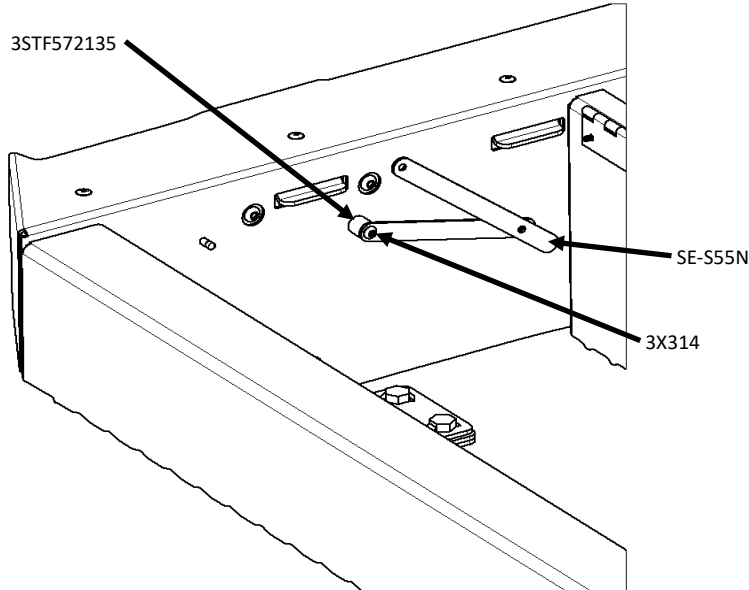

Figure 11
1. Locate (6) Support Hinges [SE-S55N], (6) Aluminum Lid Stay Spacers [3STF572135], and (6) [3X314] 10-24 X 1.25" Button Socket Head Cap Screws.
2. Position Spacer between the Support Hinge and the Side Panel. Secure the short leg of the Support Hinge and Spacer to the wall with a Button Head Socket Cap Screw using #10 hex drive as shown in Figure 11. Notice the Hinged is pointed towards the front of the vehicle.